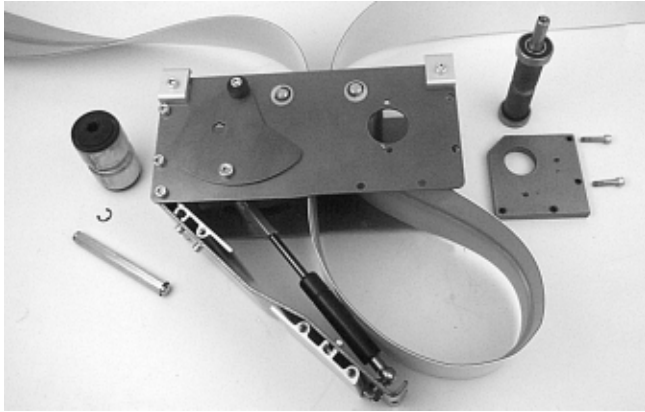

Figure 29
2. Place loop of belt into the drive module (Figure 29).